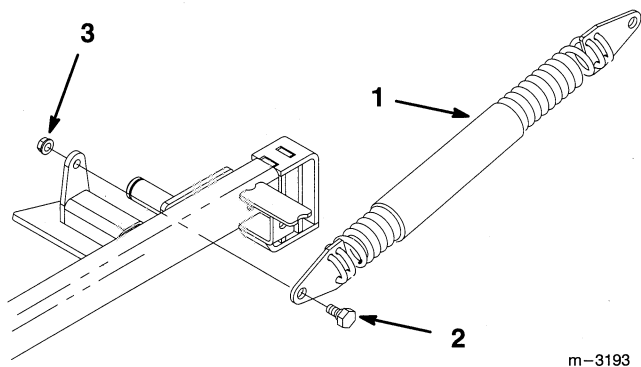

Figure 6
4. Secure spring end plate assembly to carrier frame with 3/8" x 7/8" (23 mm) shoulder bolt and 3/8" locknut (Fig. 6).